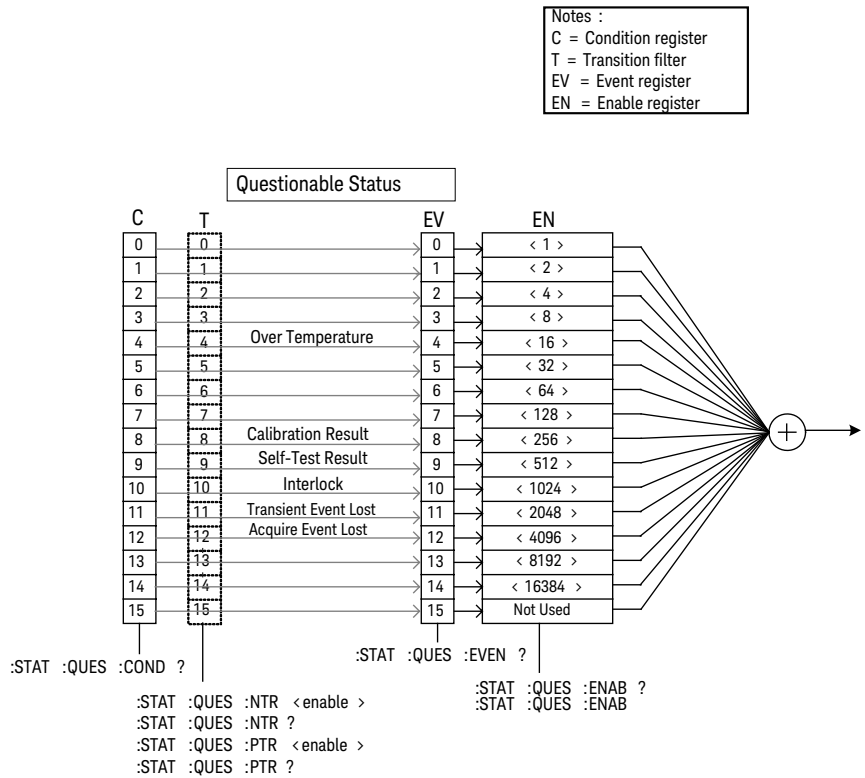

Figure 1-4 Standard Event Status Register
- Figure 1-4, "Standard Event Status Register."